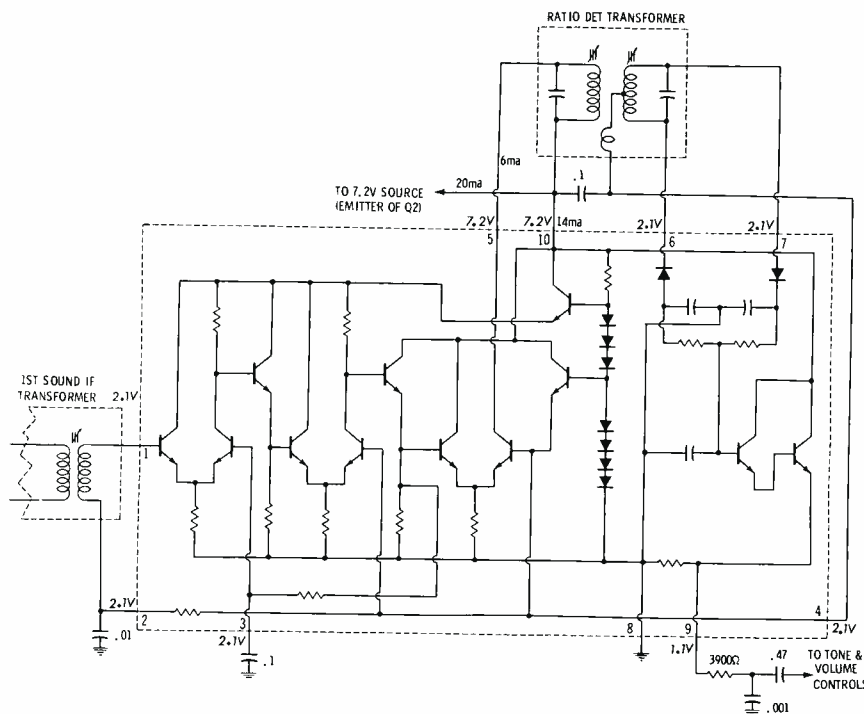

Fig. 8. Integrated circuit sound system first appeared in RCA CTC21 chassis.
The Integrated Circuit (IC) is now showing up in TV sets. The IC first appeared in TV as the sound IF, sound detector, and audio pre-amplifier of the RCA CTC21 color TV chassis. The equivalent circuit of the IC is shown in Fig. 8. The sound stages of this set are all-transistor, with two other transistors used in the driver and audio output stages.
diodes, mounted on a common base. Tuned circuits are connected externally, as you can see in Fig. 8. We will probably be seeing more applications of integrated circuits in the very near future.